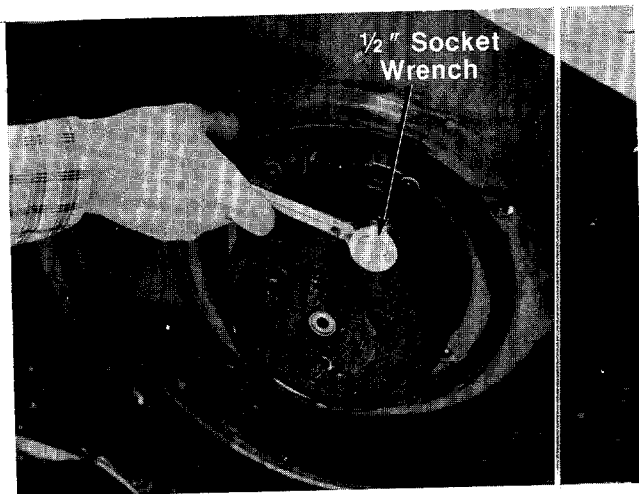

FIGURE 23.
- Support the engine with one hand. Remove the three self-tapping screws which secure the deck and blade brake/clutch to the engine. A $\frac{1}{2}$ " socket wrench is required. See figure 23.